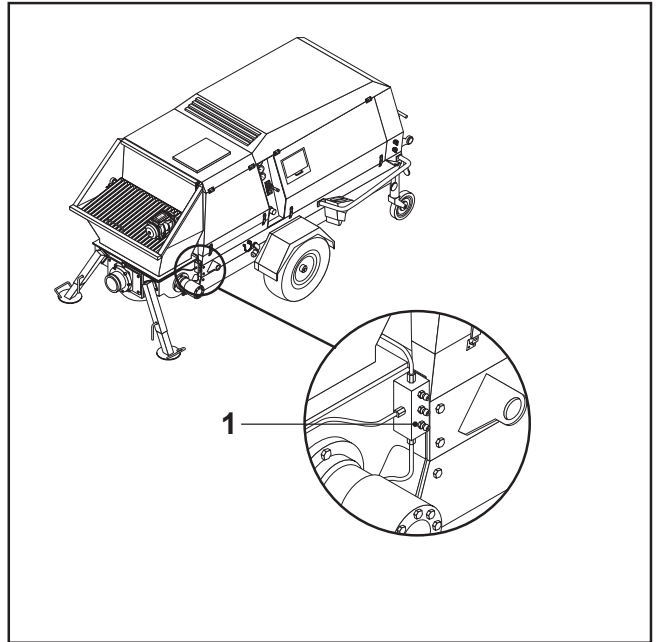

FIG.60
- Using the grease pump supplied, lubricate the three greasing points (FIG. 60-REF. 1) on the mixer support and the S-valve mount.